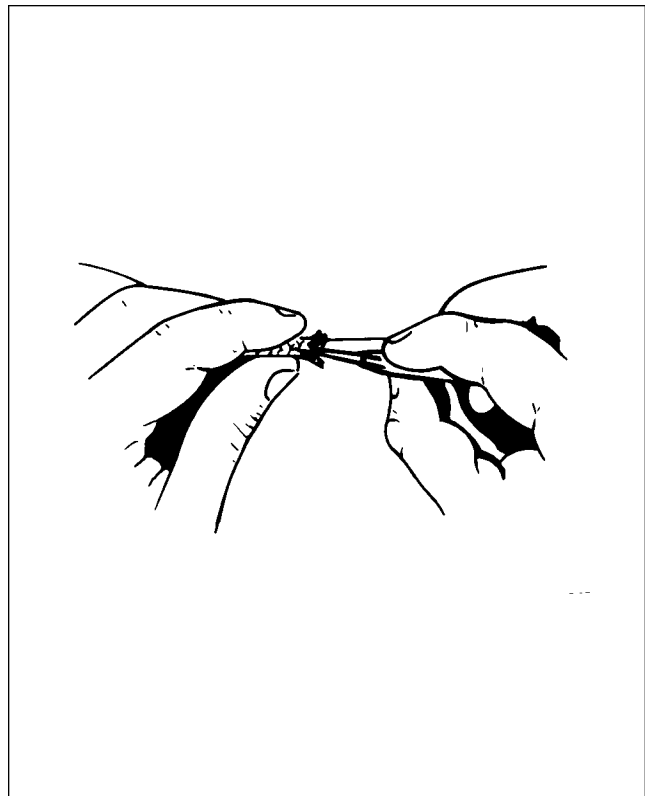

Figure 74-36. Unbraiding Metallic Shielding
- I. Using a scribe or similar pointed tool, unbraid 3/8 inch of braided shielding. (Refer to Figure 74-36.) Wrap a single thickness of electrical tape around unbraided strands to facilitate insertion of lead end through hole in cable outlet plate.